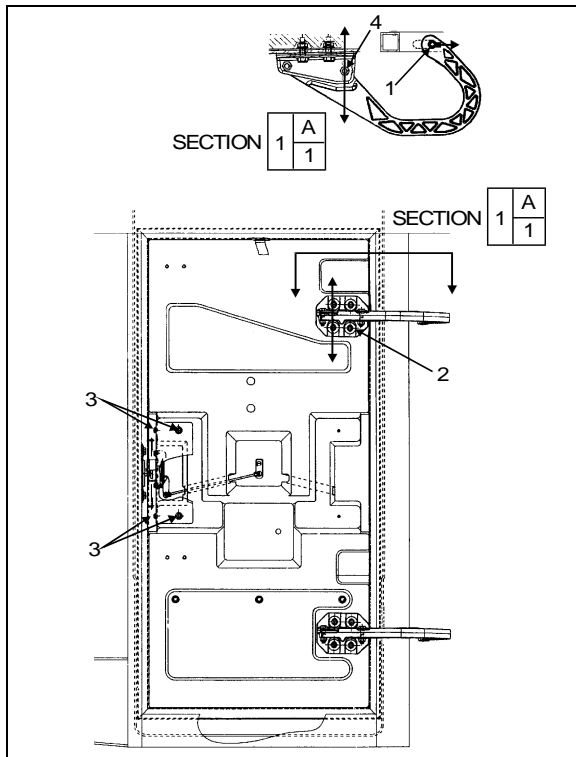

FIGURE 76: MAIN POWER COMP. DOOR
1. Loosen nut (1, Figure 76).
3. Tighten nut (1, Figure 76).
4. Loosen nut (4, Figure 76).
7. Loosen screws (2, Figure 76). Screws allow the door to be shifted "UP or DOWN".